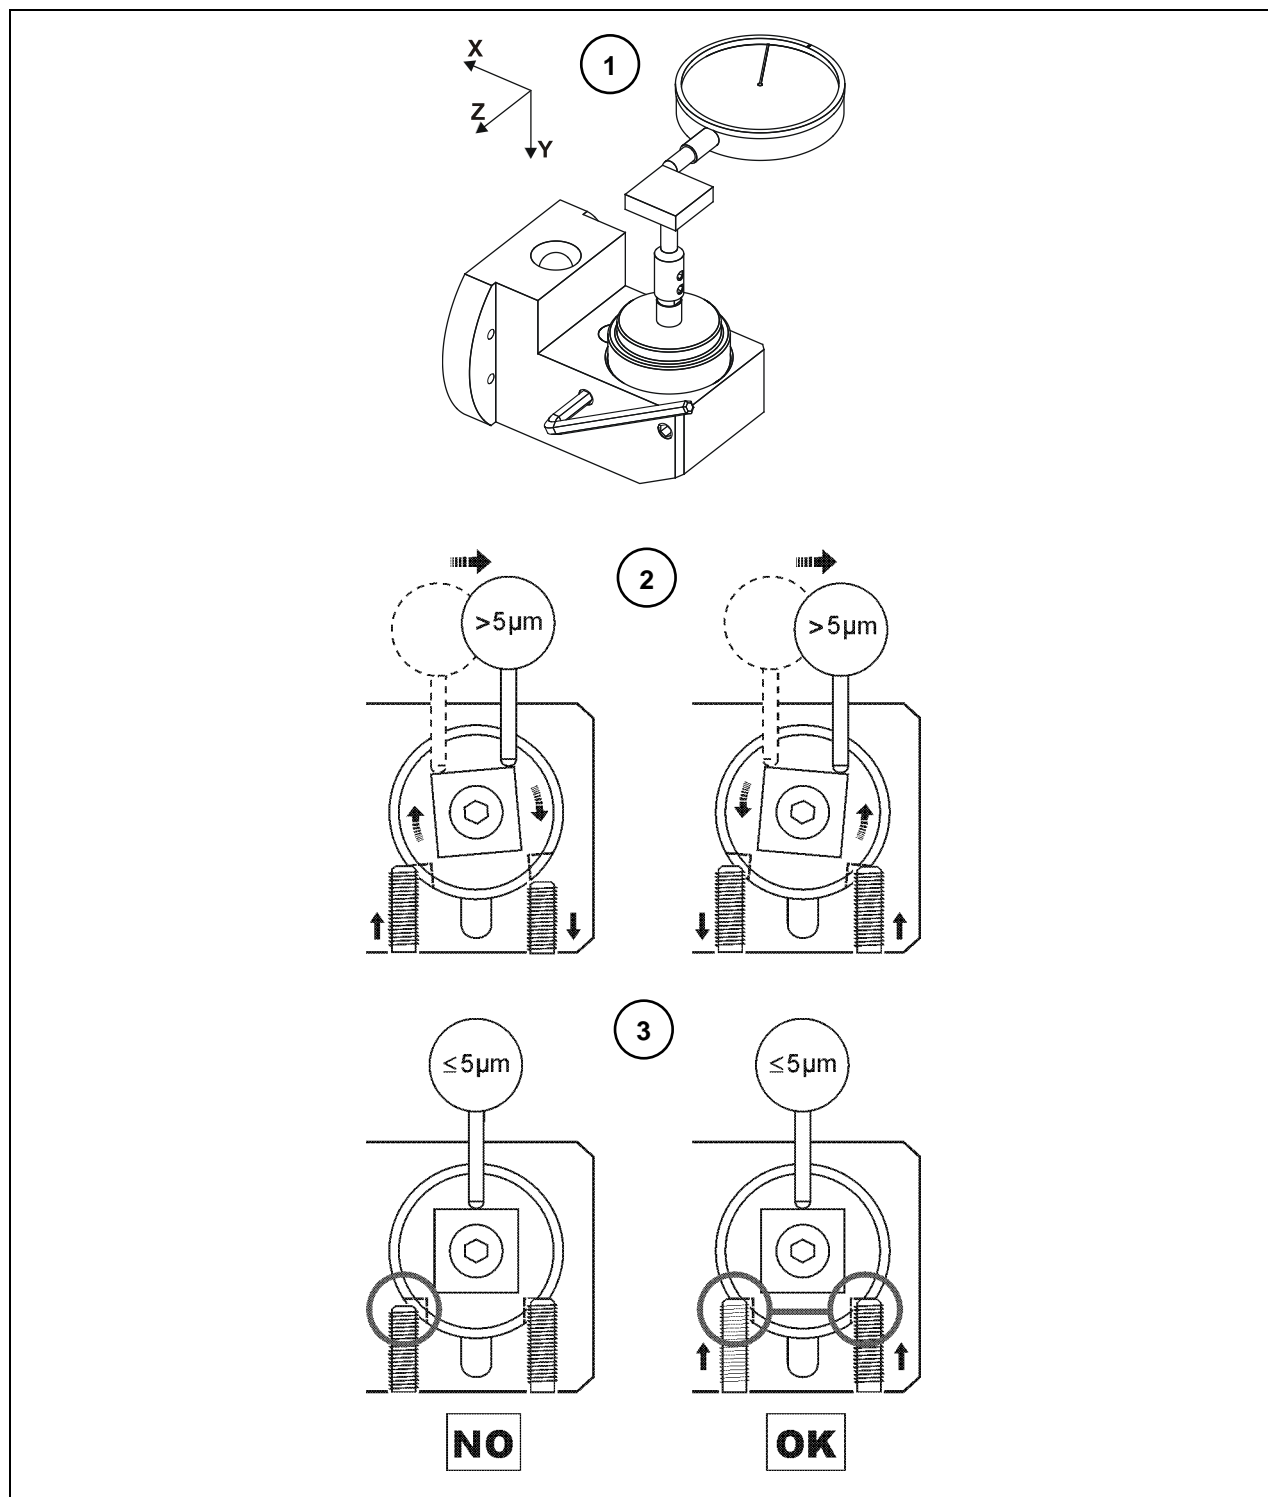

Figure 5-8. Fine stylus adjustment.
Use a millesimal comparator to refine the previous adjustment by carrying out the procedures described in Figure 5-8. Make sure that both the grub screws are against their end stops (Figure 5-8– ref. 3).